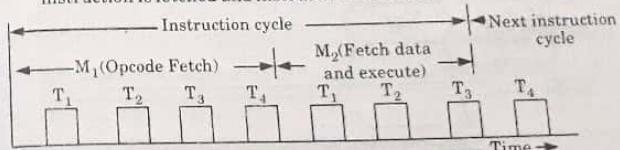

Fig. 2.7.1. A typical instruction cycle.
8. Fig. 2.7.1 exhibits instruction cycle and machine cycle within it. It shows two machine cycles  $M_1$  and  $M_2$ .